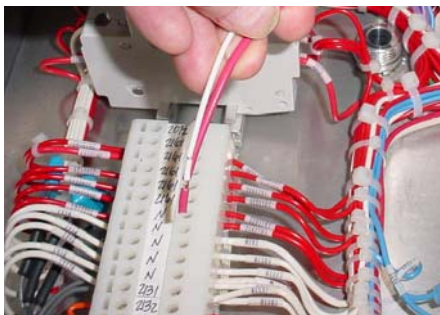

FIG. 3: H-20/35 Pro Upper Control Box - Wiring
2. Connect the red 2161 wire to a 2161 terminal. See FIG. 3.
3. Connect the white N wire to a neutral (N) terminal. See FIG. 3.